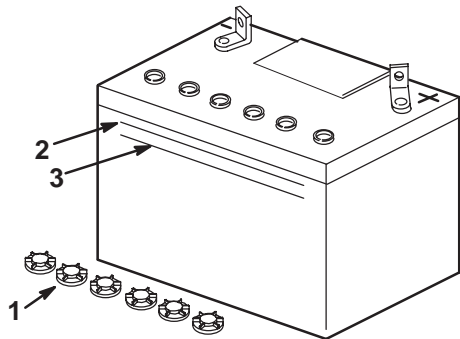

Figure 2
3. Remove the vent caps from the battery (Fig. 2).
- Slowly pour electrolyte into each battery cell until the level is up to the upper line on the battery case (Fig. 2).
- Wait five to ten minutes after filling the battery cells. Add electrolyte, if necessary, until the electrolyte level is up to the upper line on the battery case (Fig. 2).